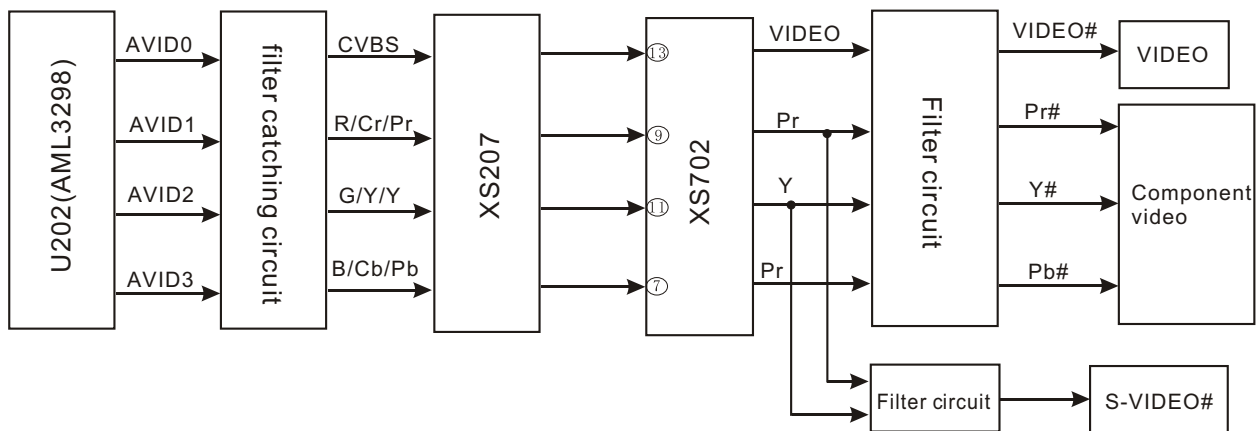

Figure 3.2.10.1 Video circuit block diagram
1. Video circuit block diagram is shown as the following figure 3.2.10.1: